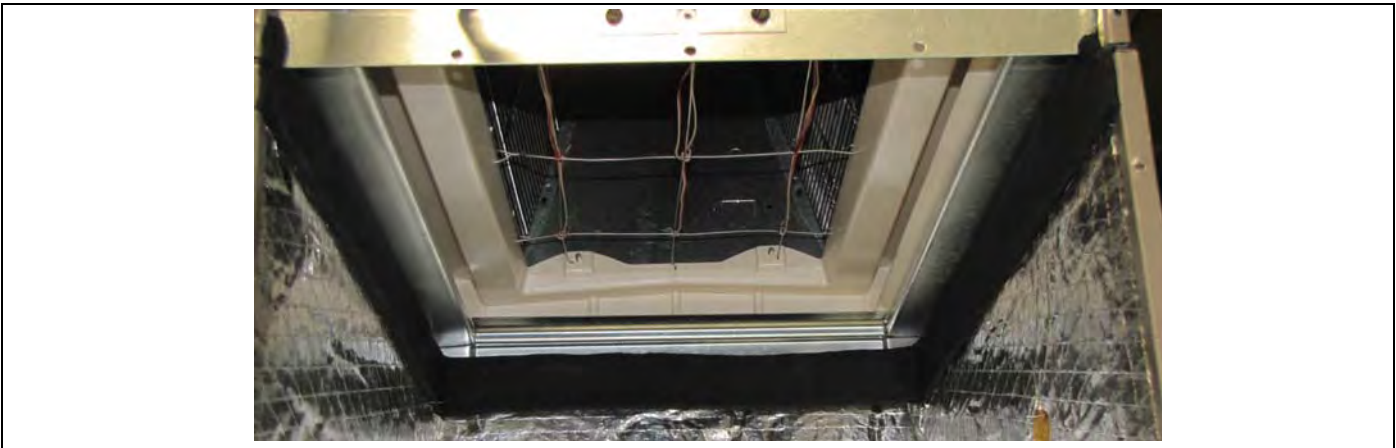

FIGURE 3: Gasket Location
8. Apply foam gasket over the air handler and coil mating seams and duct flanges on the interior of both unit sides and the interior of the back. Refer to Figure 3.